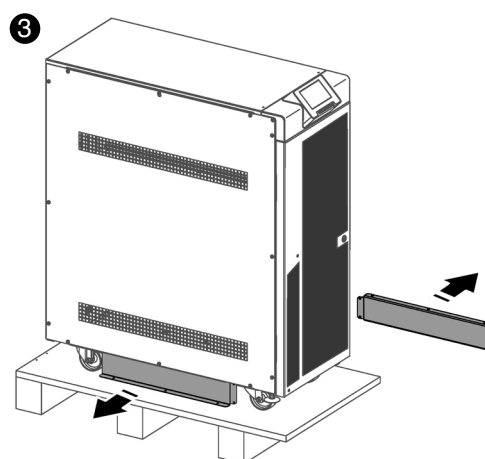

Fig. 24. Extraction of the guides to facilitate the descent of the equipment from its pallet.
- ③ Unscrew the guides on both sides of the base of the equipment provided in order to facilitate the descent of the equipment (Fig. 24).